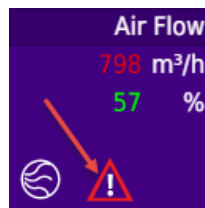

Figure 160: Alarm indication
**Alarm Indication:** This indicates by switching to red if an alarm was triggered. A click on this icon opens the “Alarm List” that is an usual alarm list that shows the actual alarms. The alarms can be acknowledged in that list. Please refer to the L-VIS\_User\_Manual for more information about operating the alarm list visualization. For a better overview the “Alarm” icon is also shown on the relating top level tiles of the regarding functions on the “Status Overview” page. An example of a flow alarm is shown in Figure 160.